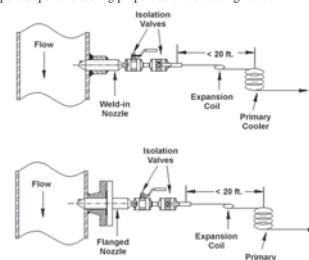

Figure 1. Installation of weld-in Nozzle (top) and flanged Nozzle (bottom)
- The sample tubing should form a coil (see Figure 1) or a series of bends after the isolation valves, to allow for any movement or expansion of the pipe.